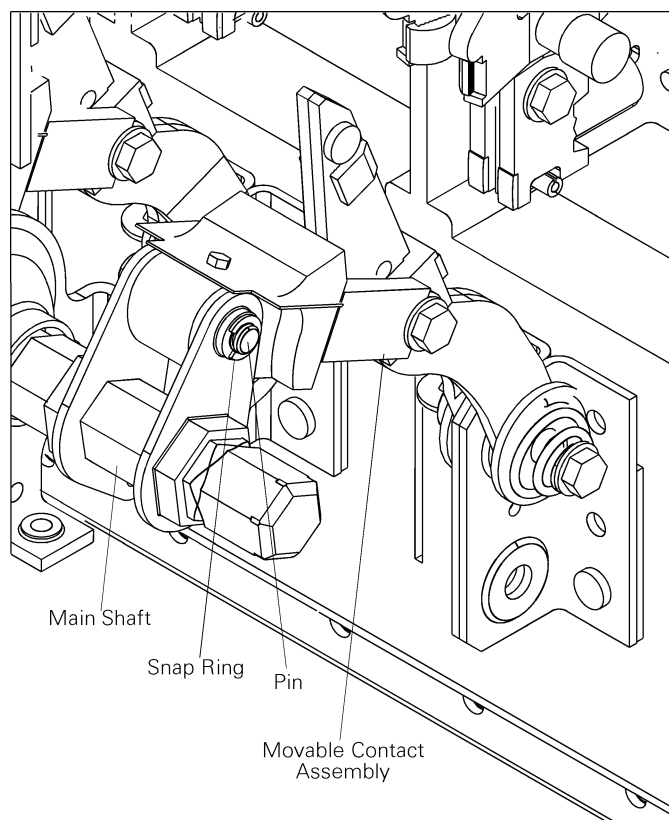

Figure 5-4. Movable contact connection to the breaker main shaft on WPS08, WPF08, and WPH08 breakers.
6. Remove one of the snap rings and slide out the pin connecting each of the movable contact assemblies to the breaker main shaft, as illustrated in Figure 5-4.
5. Reconnect the movable contact assemblies to the breaker main shaft by inserting the connecting pin and reattaching the snap ring, as illustrated in Figure 5-4.